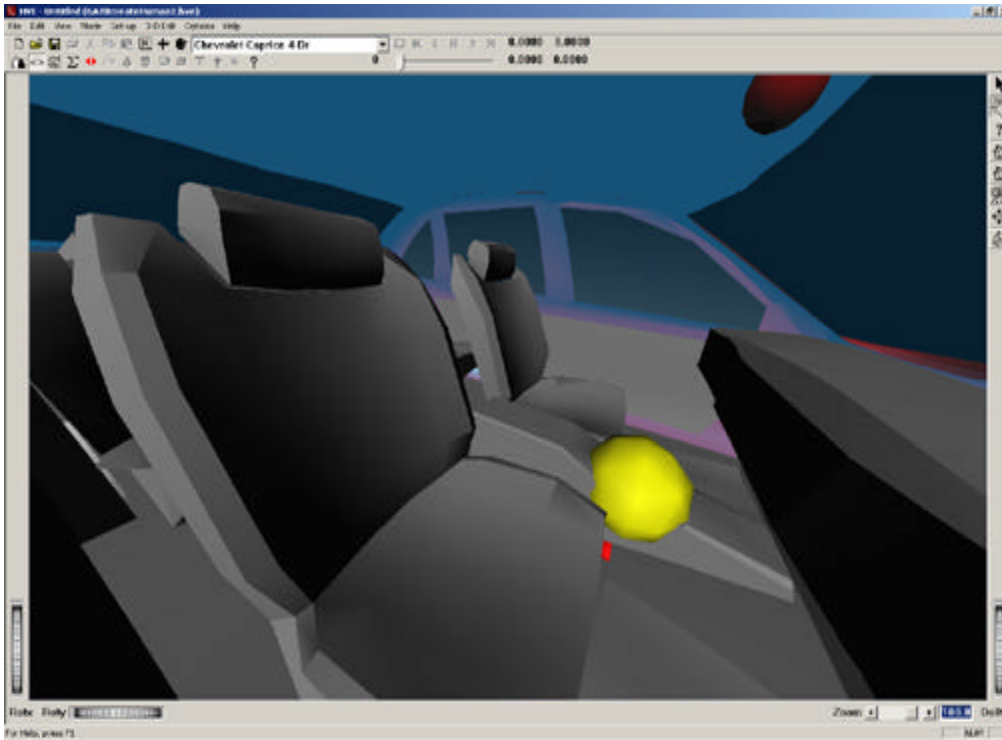

Figure 5-5: Close-up, wide-angle view of vehicle interior
- Adjust the zoom slider located on the bottom right portion of the viewing window or enter a number of approximately 100 to generate a wide angle view inside the vehicle similar to Figure 5-5.